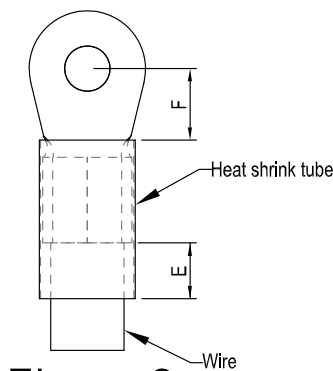

Figure 2.
- As shown in Figure 2, insulated heat shrink tuning should be at least 600Vac resistant to comply to UL and CSA regulations (600Vac, YDPU2).